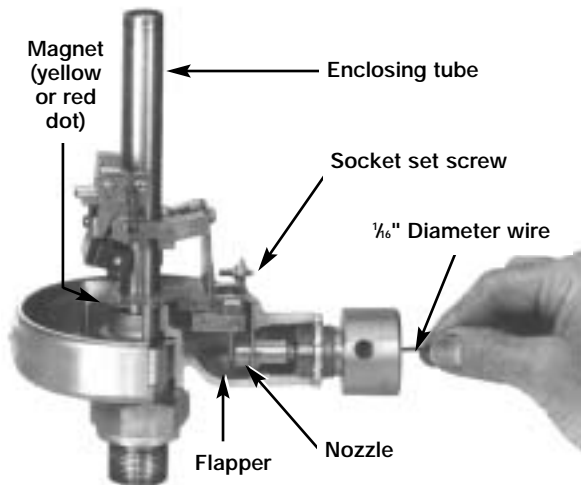

Figure 6
4. Insert a  $\frac{1}{16}$ " diameter wire into the nozzle from the air line connection side. Refer to Figure 6. The wire may be moved back and forth to clean the opening of any accumulated matter.